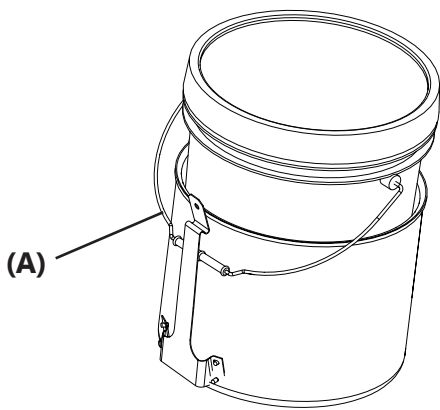

Figure 1
- **5 Gallon Pail:** Insert the pail into the holder. Slip the bail handle into the clip retainer **(A)** (See Figure 1).